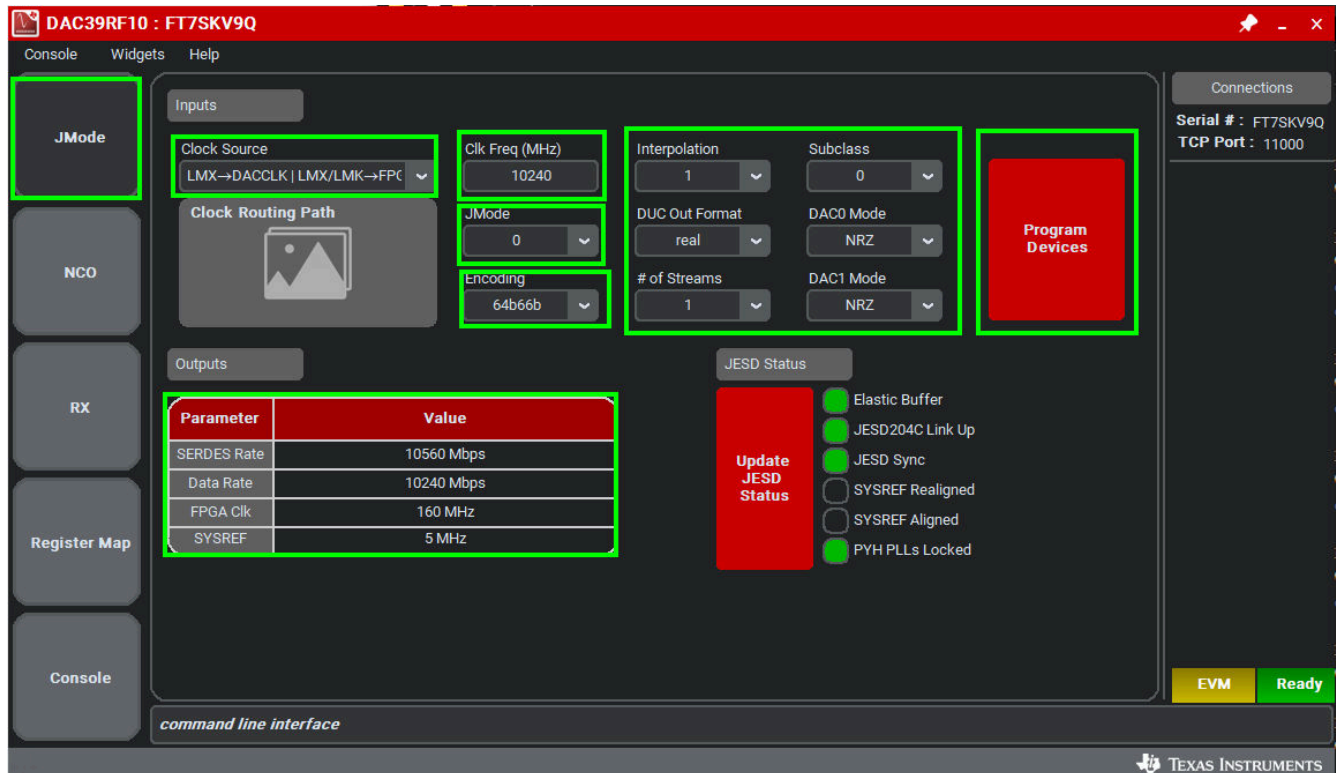
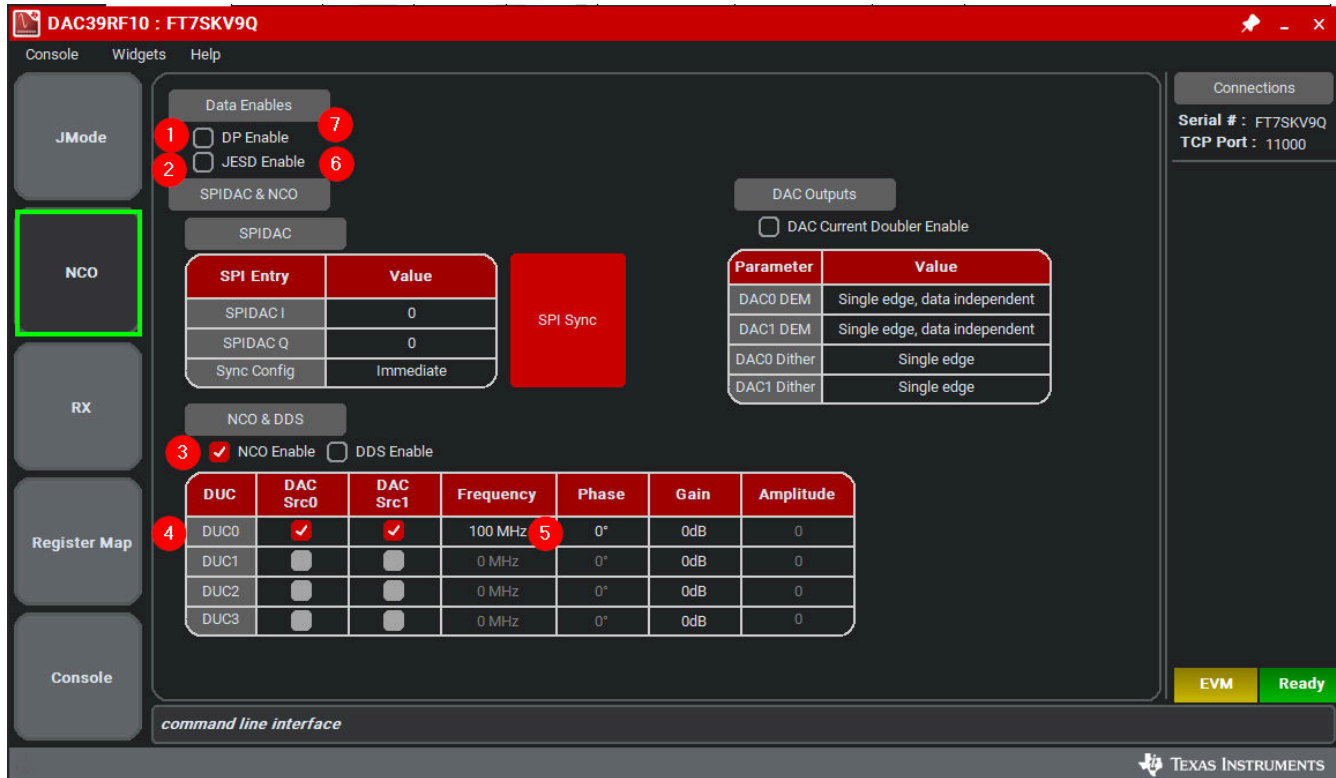

Figure 2-3. Configuration of DAC39RF10EVM GUI
Figure 2-5. NCO TAB CONTROLS
- a. The FPGA REF clock frequency can be obtained from the DAC39RF10EVM GUI. Once the DAC39RF10EVM GUI is configured to the desired JMODE mode and clock rate. The reference clock frequency required by the EVM is displayed on first page of the GUI shown in Figure 2-3.
The GUI opened to the *JMODE* tab and *NCO* tab, respectively, is shown in Figure 2-3 and Figure 2-5. Tabs at the left of the panel organize the configuration into device and EVM features with user-friendly controls and a low-level tab for directly configuring the registers. The EVM has three configurable devices, namely the DAC39RF10, LMX1204 and LMK04828. The register map for each device is provided in the device data sheet; see Section 5.1.
6. Enter the data rate as *10.24G* or the desired input data rate. The data rate value can be referenced from the DAC39RF10EVM GUI and is displayed on output parameter as shown in Figure 2-3.